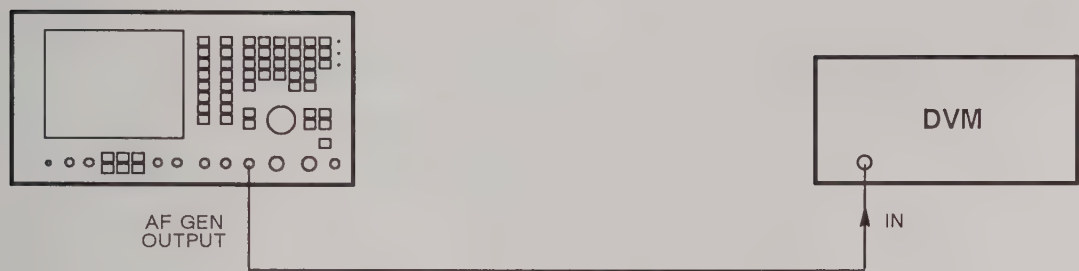

Fig. 6-12 Test equipment connections for AF generator output level accuracy
- (1) Connect the DVM to the AF GEN OUTPUT socket. See Fig. 6-12.
- (2) On the 2955A, set the MODE to AUDIO TEST. Ensure that GEN 1 is ON and GEN 2 is OFF. Press the TONES and AUDIO SETUP keys. Set the GEN 1 FREQ to 1 kHz, LEVEL to 1 V and SHAPE to SINE.
- (3) Check that the voltmeter reading is the same as the GEN FREQ setting $\pm 5\% \pm 1$ step.